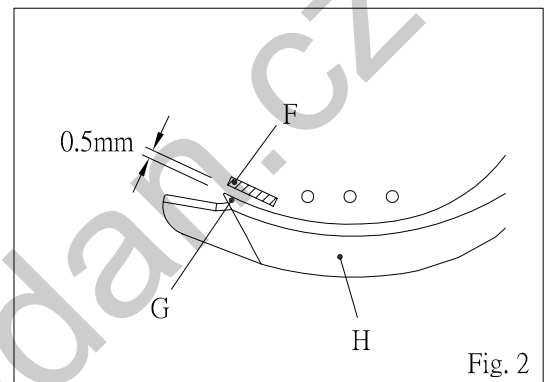

Fig. 2
Adjusting hook blade (H) lowest position, by loosening screw (K) and (I), setting hook blade (H) passed over 3~5mm from the center of leftest needle, by moving driving lever (B) and stop block (J), then, tighten screw (I) and (K). (Please refer to figure 2.)